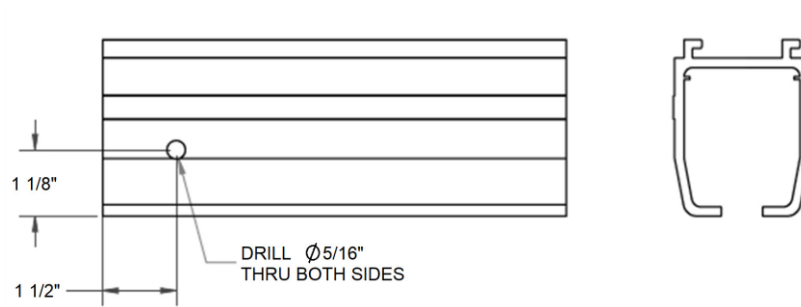

Figure 86: **Clevis Pin Hole Location**
2. Use a 5/16" bit to drill a hole at the marked spots for the clevis pin (see Figure 86).